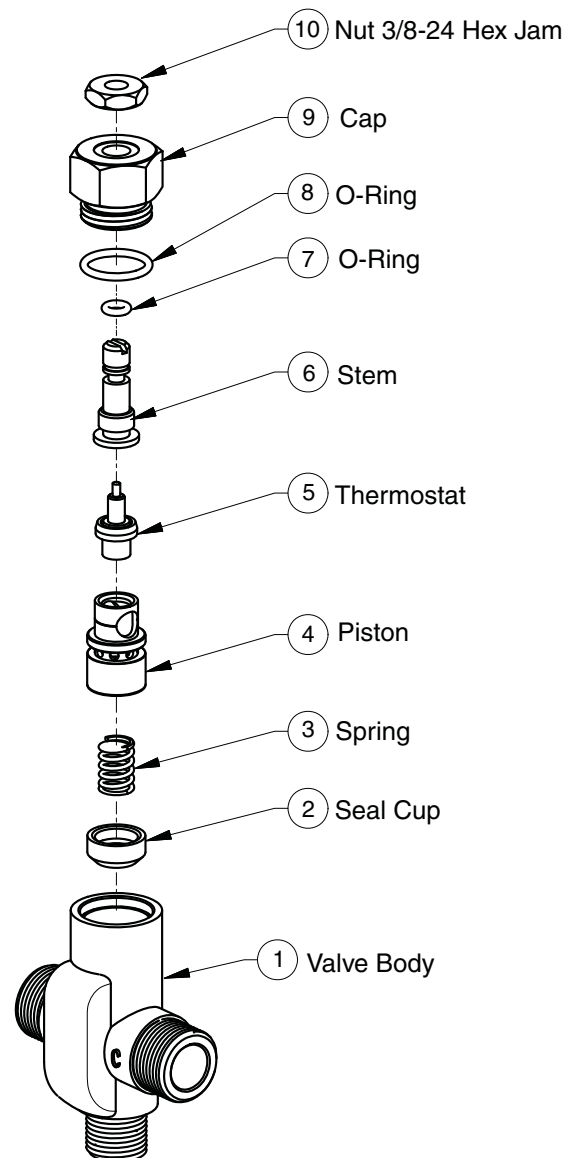

Figure 15
1. Remove the valve's cap and thermostat (see Figure 15 on Page 28).